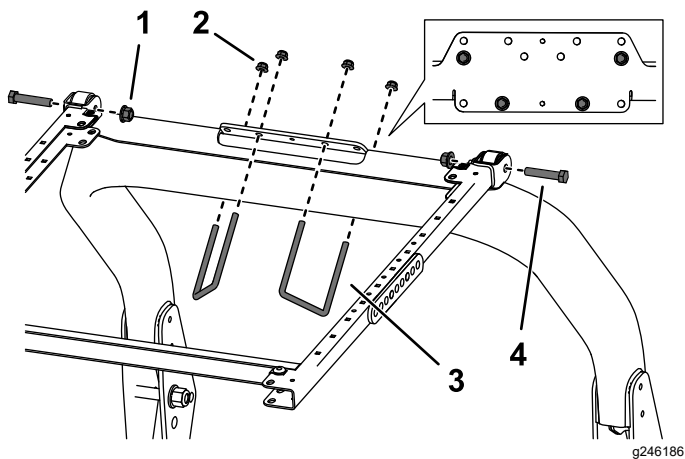

Figure 35
- Position the ROPS-mount bracket onto the top of the traction unit roll bar (Figure 35). Ensure that the roll bar is centered in the ROPS-mount bracket.
- Using the mounting holes shown in Figure 35, mount the ROPS-mount bracket to the top of the roll bar with 2 U-bolts (3-1/2 inches) and 4 flange nuts.